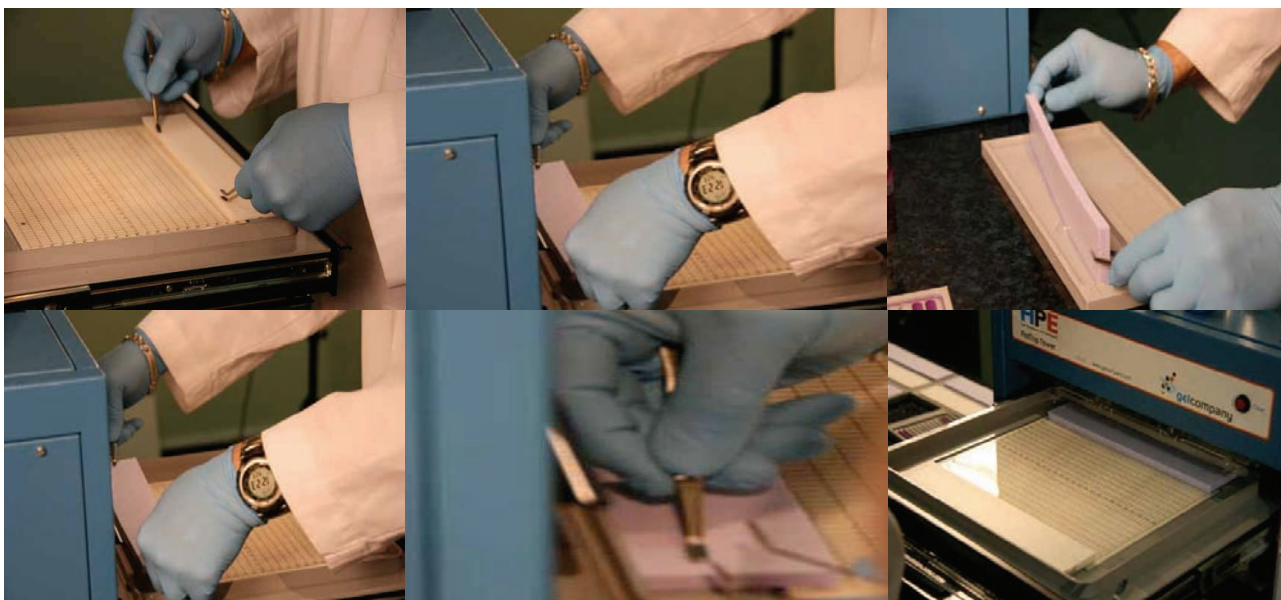

Fig. 5.7: Applying the stack of electrode wicks on gel edges.
9. Place the stack of electrode wicks onto the gel edges, overlapping the gel by at least 2 mm. Smooth out air bubbles using a roller. Move the anodal wicks around the gel area to avoid dropping buffer on the gel surface (fig. 5.7)